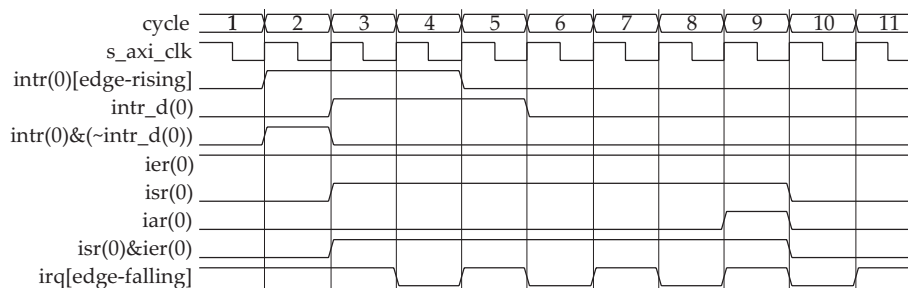

Figure 20: Input Intr - Edge Sensitive (Rising) and Output Irq - Edge Sensitive (Falling)
- Configured Input Interrupt (Intr) for Edge sensitive (rising) and Output Interrupt Request (Irq) to Edge sensitive (falling) and is shown in Figure 20.